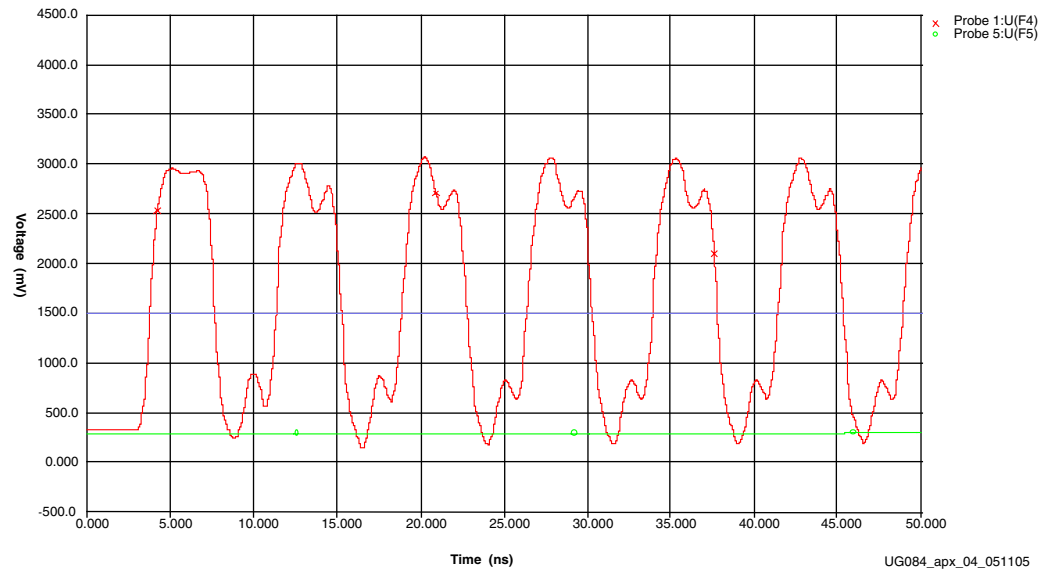

Figure A-4: Top Jumper is a Transmission Line (Hard Routed through the Net)
- Figure A-4, Top Jumper is a Transmission Line (Hard Routed through the Net)
In Figure A-4, the waveform shows destination pin U10.C13.